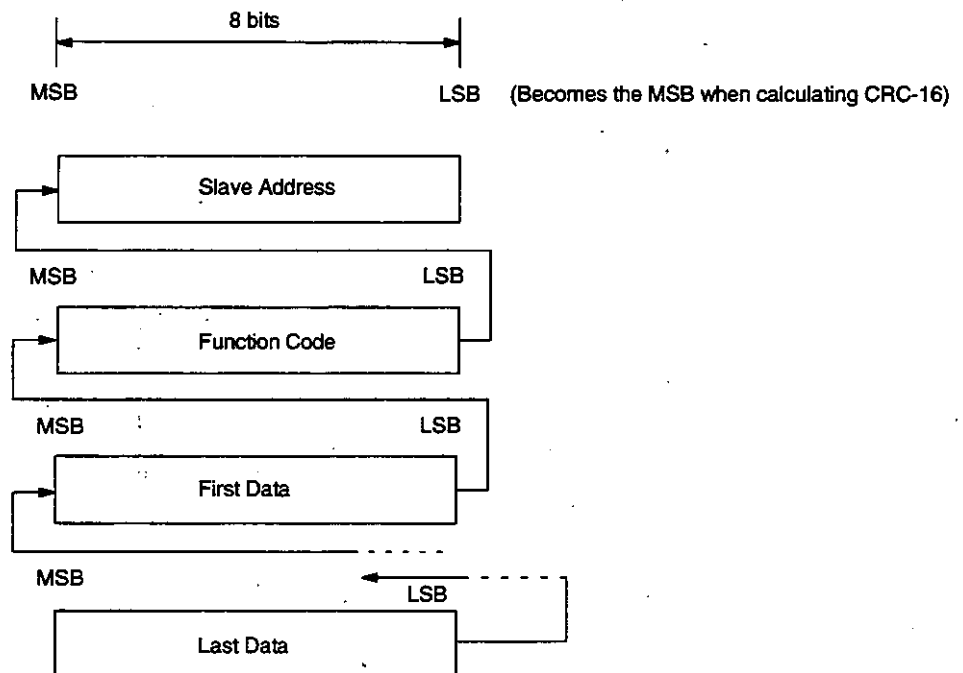

Figure 6.2 CRC-16 Calculation Data
- 1) CRC-16 (cyclic redundancy check-16) refers to a checking method that connects all message blocks (up to the last data from a slave address) in series as shown in *Figure 6.2*, and divides that data by a preset 17-bit decimal number (1-1000 0000 0000 0101) to get a 16-bit remainder.